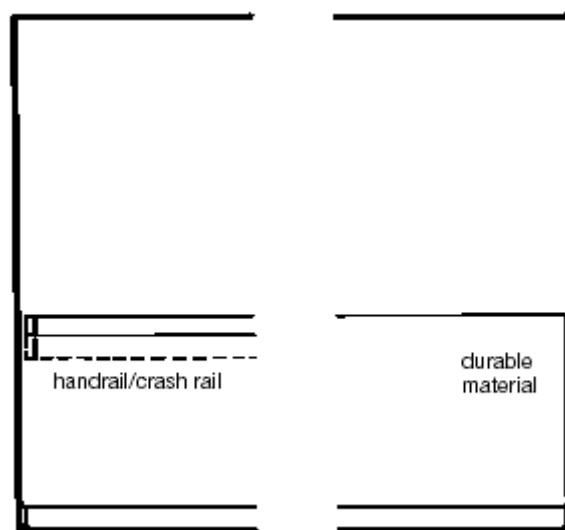

Figure 2 Medium duty
- 3.5 Mid-height buffer rail and/or durable finish on middle or lower part of wall, bed locators in bedrooms (see Figure 2).